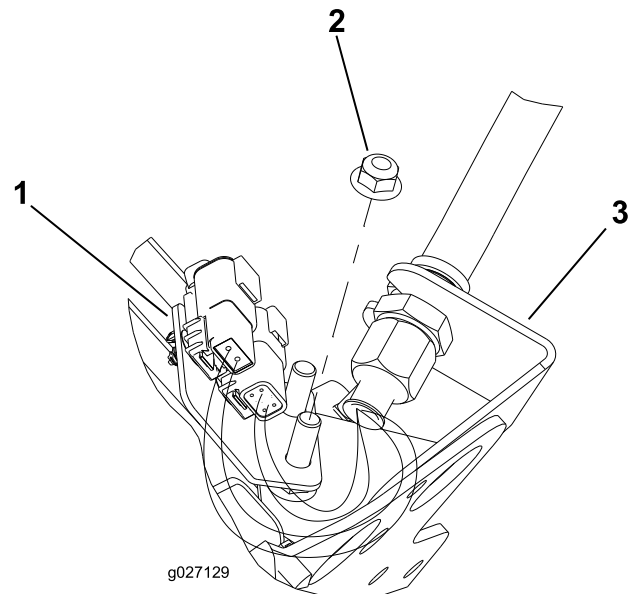
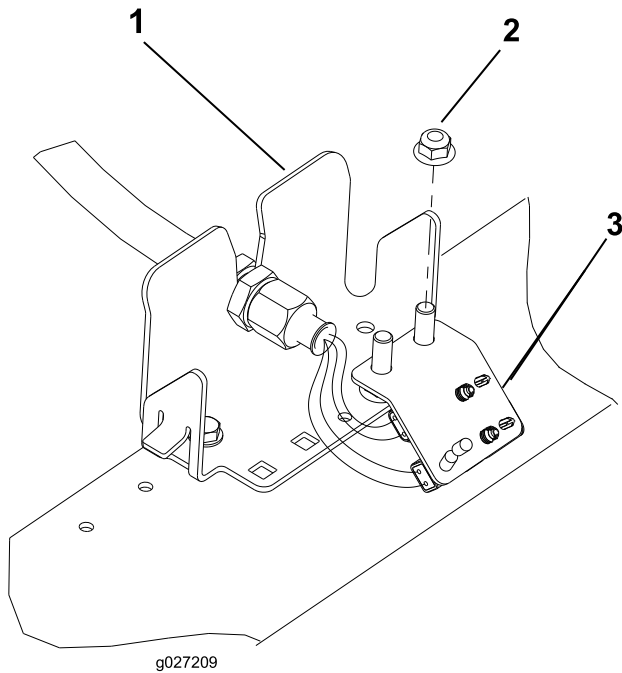

Figure 12
Figure 15
6. Repeat the procedure on the remaining 4 bulkhead locations as shown in Figure 12 through Figure 15.